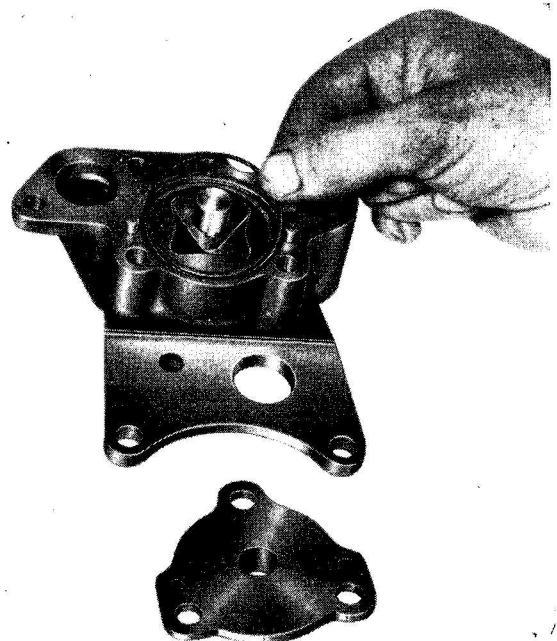

Fig. 8
5. Remove the "O" sealing ring from the pump body (Fig. 8).